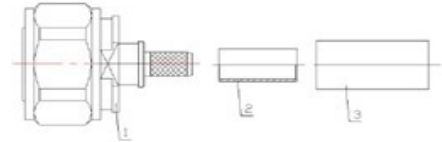
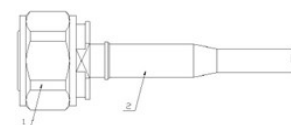

Figure 1
Figure 5
Insert heat shrink tube and Crimp Sleeve (item 2 in fig. 1)) over the cable end and move these components up the cable 15 to 20cm to ensure that they are not in the way.
Slide the Heat Shrink Sleeve (Item 3 in Fig1.) over the crimped sleeve and shrink the sleeve with a heat gun. Be careful not to apply excessive heat to a single point at any given time. Do not direct the hot airflow onto any part of your person as this may result in burns. The final assembly should resemble Fig 5